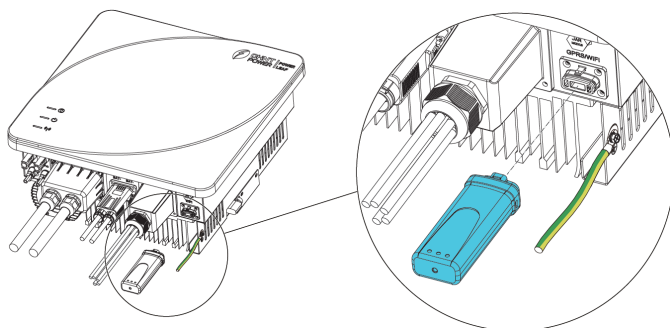

Figure 4-28 Communication Rod installation
3. Power on the parallel system as the following steps in Figure 4-28.
- ① Close grid side AC circuit breaker of each inverter.
- ② Close load side AC circuit breaker of each inverter.
- ③ Close PV side PV switch of each inverter.
- ④ Close energy storage side DC breaker of each inverter.